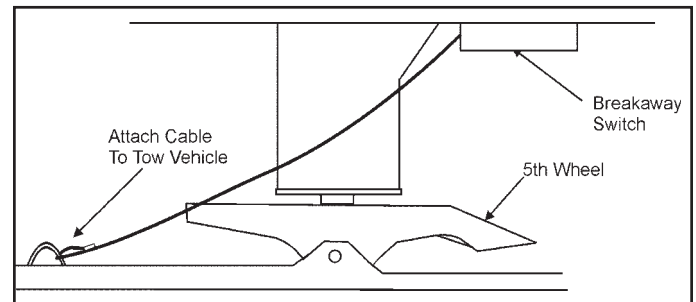

Figure 27. 5th Wheel Coupler Breakaway System
- Connect the pullpin cable to the tow vehicle (see Figure 27). Do not connect to kingpin or its support.